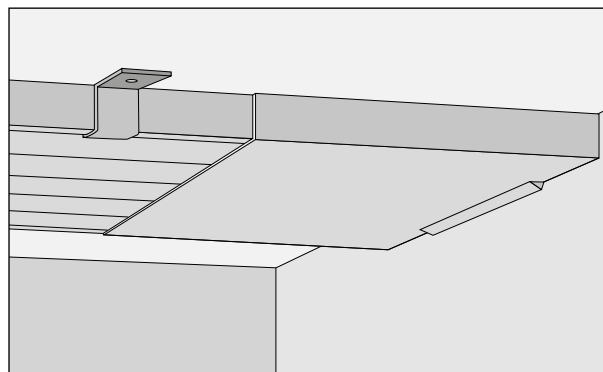

Figure 1. Atrium with connection cover.
**Connection cover:** Conceals visible piping to a wall or in between panels (see figure 1). Indicate the length when you place your order.